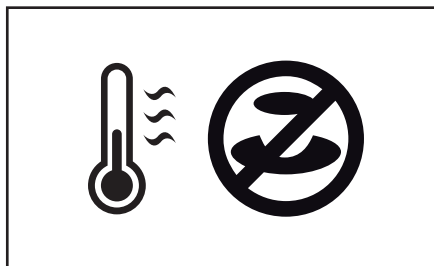

Fig. 4.9 - Heating up/Delivery blocked icons
3. A flashing thermometer and the icon for "Delivery blocked" will be shown on the display (fig. 4.9).